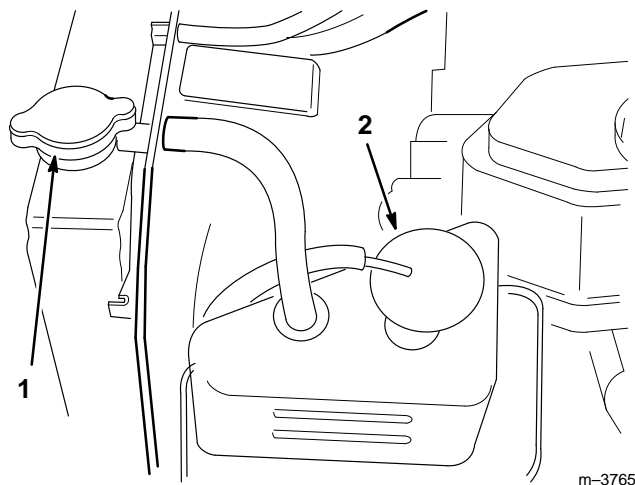

Figure 27
2. Remove the radiator cap and reserve tank cap (Fig. 27).